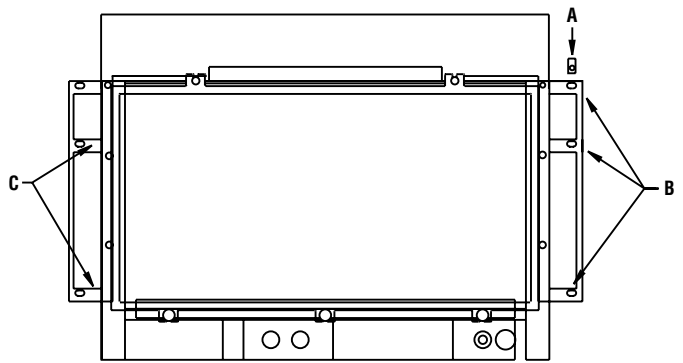

Figure 14
1. Remove the speed nuts from the parts bag and install (with the flat surface forward) on the six holes in the surround brackets, three on each side of the insert (See A in Figure 14). A flat bladed screwdriver may help in installing the nuts.
3. If the insert face is to be installed on the insert, the sight obstructor that comes with the face must be installed prior to installing the surround panels. With the curved edge down and the bent top edge positioned toward the insert, slide the tabs at the ends of the obstructor in the slots on the surround brackets (see C in Figure 14).
A number of different face finishes and shapes are available for your Designer™ Flush Gas Insert. The insert Face comes with a sight obstructor that must be installed prior to installing the surround panels (see step 3 on Page 11) and face. The faces come with hooked brackets. To install the face, hang the hooked bracket on the surround brackets (D in Figure 14).